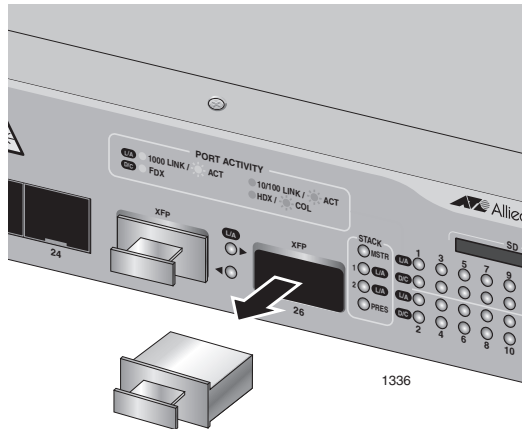

Figure 26. Removing an XFP Dust Plug
1. Remove the dust plug from a transceiver slot on the switch. Refer to Figure 26.